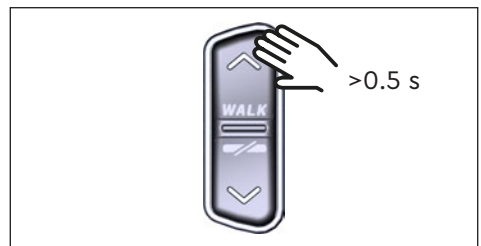

Fig. 9: Activate walk assist
- ▶ When the e-bike is at standstill, press the UP button on the Remote for longer than 0.5 s (see Fig. 9) to activate the walk assist.